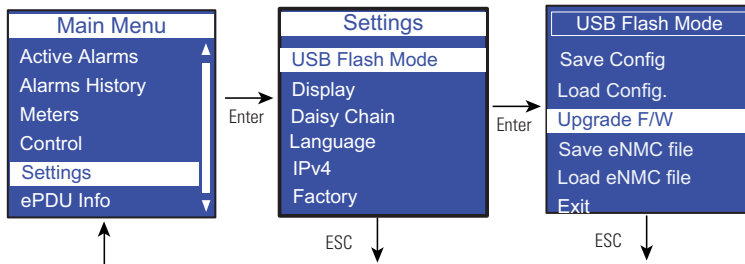

Figure 68. Example Select Upgrade Firmware
8. Select Upgrade FW and click **OK** to confirm the upgrade (see Figure 68). The eNMC module gets the file from the USB drive.